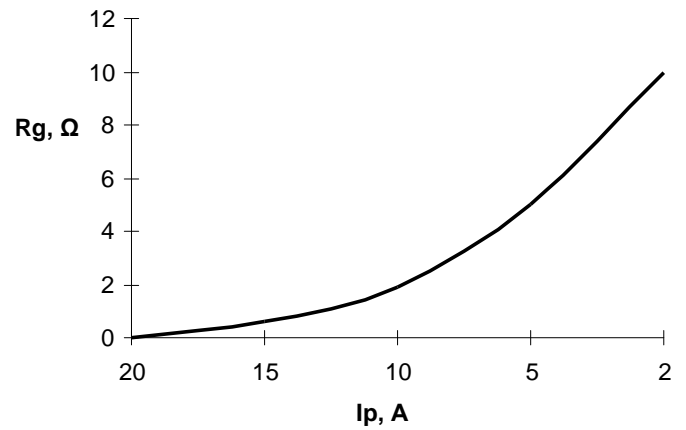

Figure 8 – Output pulse current versus gate resistor nominal
| Maximum output pulse on current | $I_{\text{Omax on}}$ | A | +18 | 20 | | Set by consumer; ref. to Figure 8 |
Gate resistors (Ron1, Ron2, Roff1 and Roff2) are necessary for maximum pulse current decrease. Resistor installing with every nominal including 0 Ω is allowed. Resistor installing with different nominal is also allowed; for instance, in order that to increase turn-on time of controlled transistor purposely to decrease voltage amplitude of inductive kicks. Output pulse current versus gate resistor nominal is shown at Figure 8.
- set up output pulse current by resistor Rg on(off) in compliance with Figure 8.